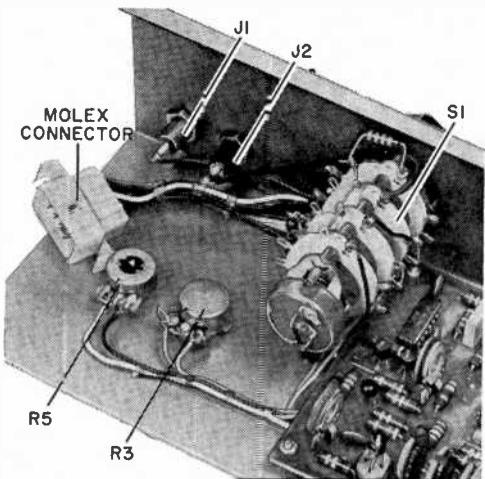

Fig. 6. Photo shows parts mounting details for off-board components.
**Construction.** Since all of the components that make up the DVOM Module mount on a single printed circuit board (see Fig. 5 for actual size etching and drilling guide and components placement diagram), assembly is very simple. The only off-the-board components are  $S_1$ , the attenuator resistors, and a pair of potentiometers as shown in Fig. 6.